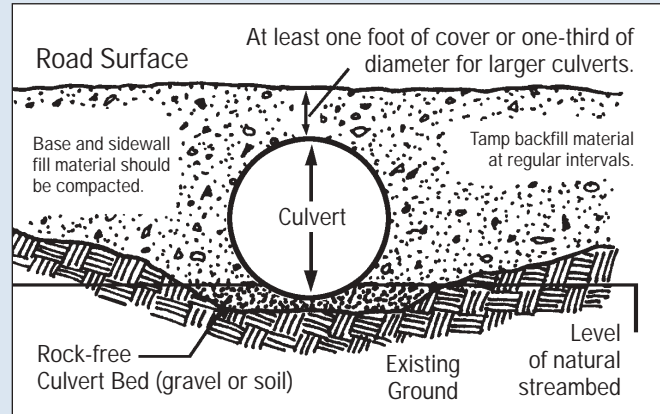

Figure 11-9: Installation of culverts.
- ✓ Firmly compact fill material around culverts, particularly around the bottom half. Cover the top of culverts with fill to a depth of one-third of the pipe diameter or at least 12 inches, whichever is greater, to prevent crushing (see Figure 11-9).
- ✓ Install pipe culverts on a surface of compacted granular material. Firmly compact fill material around culverts, particularly around the bottom half. Cover the top of the culvert with fill to a depth of one-third of the pipe diameter, or at least 12 inches (whichever is greater) to prevent crushing (see Figure 11-9, page 145).